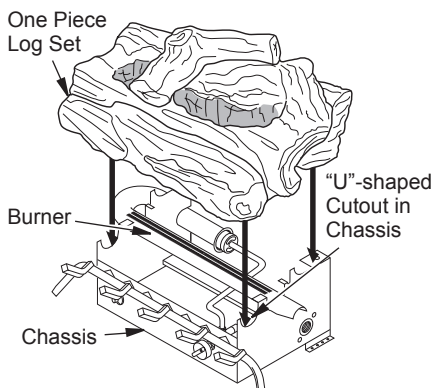

Figure 20 - Installing Vintage Oak One-Piece Log Set
1. Place one piece log set on grate to fit as illustrated in Figure 20. Make sure bottom of front log is in front of "U"-shaped cutout in center of chassis (see Figure 20). **IMPORTANT:** Make sure log does not cover any burner ports (see Figure 22, page 18).